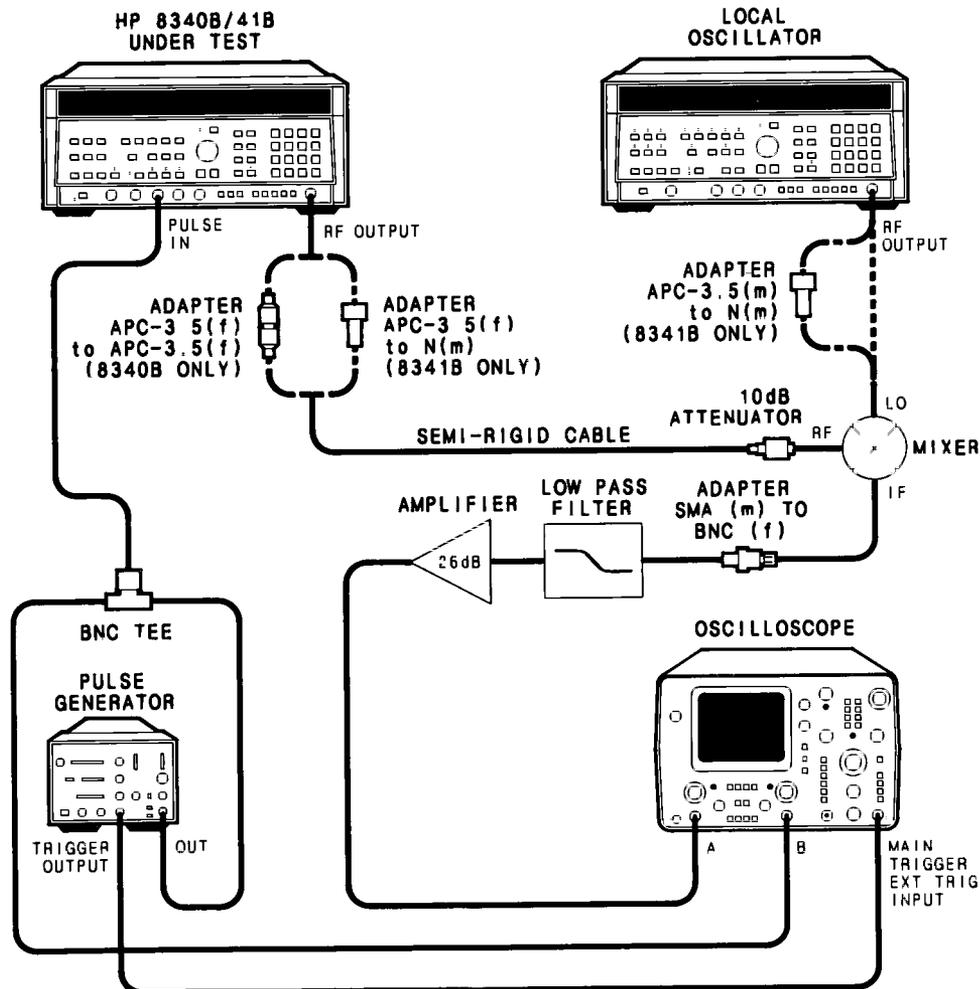

Figure 4-16. Pulse Modulation Accuracy Test
1. Connect equipment as shown in Figure 4-16. Connect the mixer directly to the LO's RF output connector to obtain the maximum mixer LO input level. Connect the BNC tee directly to the DUT's PULSE IN connector. Allow a one hour warm up.